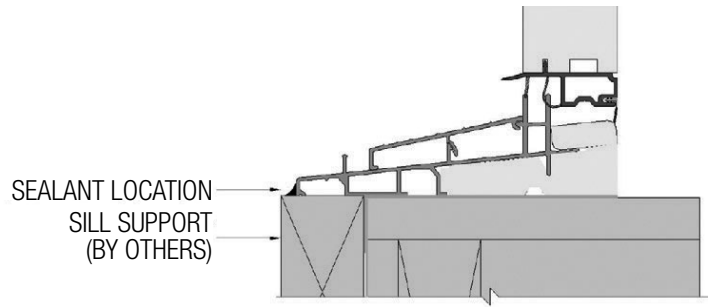

FIG. 15: STANDARD DOOR SILL
- A) Attach a sill support block beneath the sill. Apply a bead of sealant at the nose of the sill and support block. Continue the bead of sealant around the bottom edge of the brickmould to the rough opening. (Fig. 15 & 16)